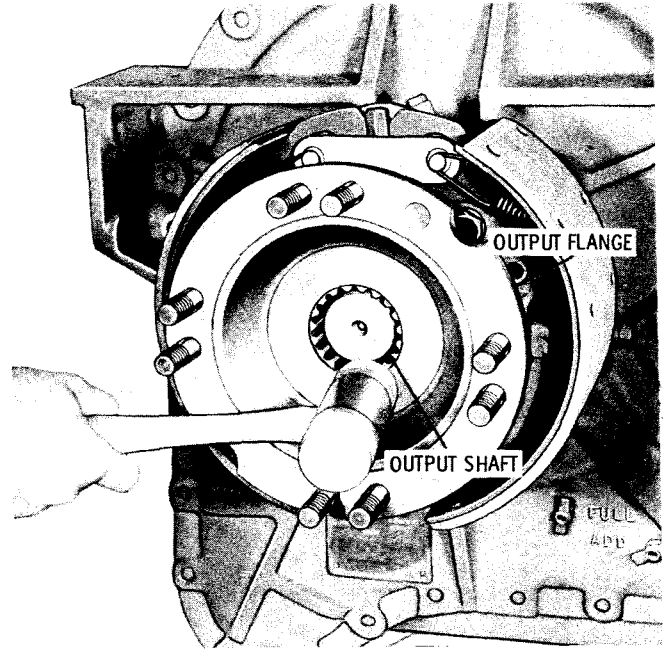

Fig. 7-112. Installing output flange
(31) Install the output flange on the output shaft (fig. 7-112). Tap lightly until the flange is seated. If the flange is a tight fit, refer to paragraph 4-8b for installation.